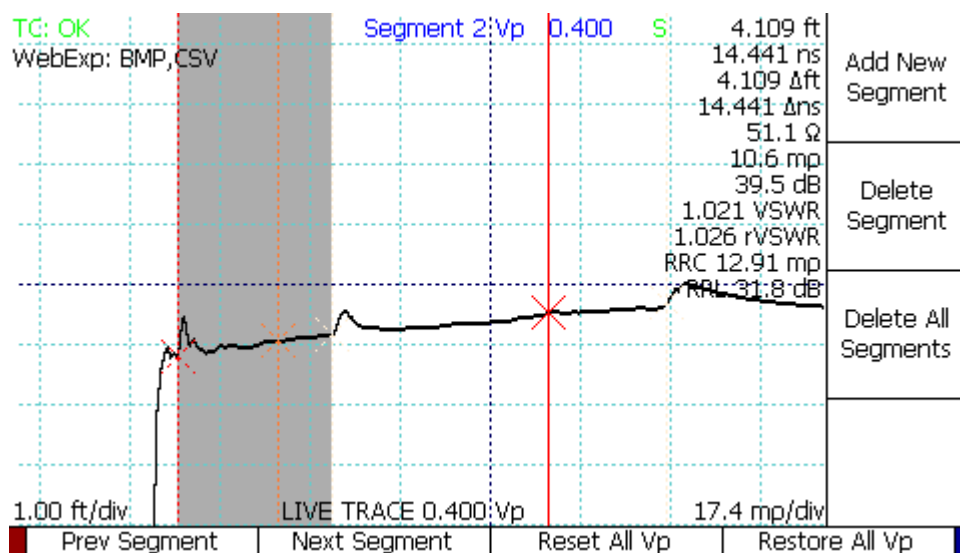
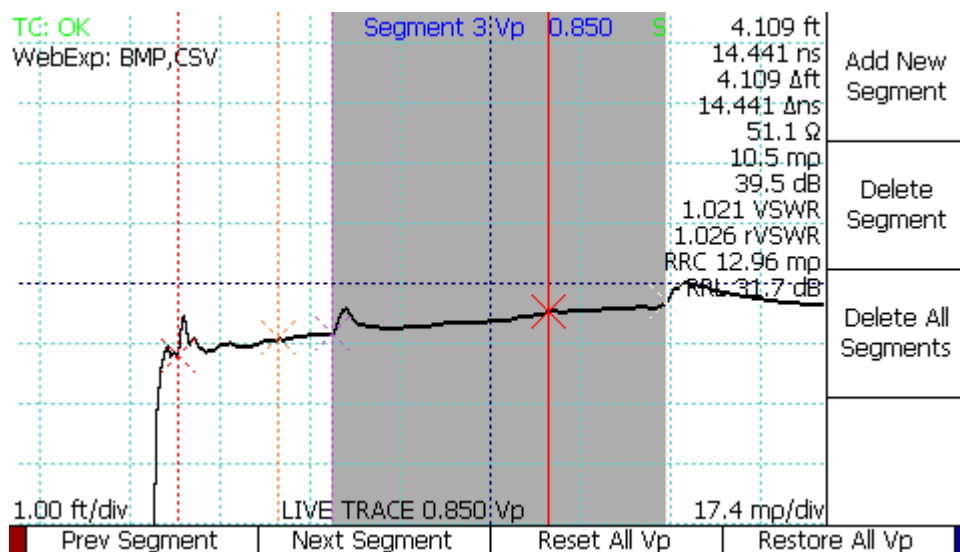

Figure 23: Multisegment cable segment with Vp of 0.400.
Figure 24: Multisegment cable segment with Vp of 0.850.
- 7) The Distance-to-Fault measured by the cursor reflects multisegment Vp as shown in Figure 23 and Figure 24.